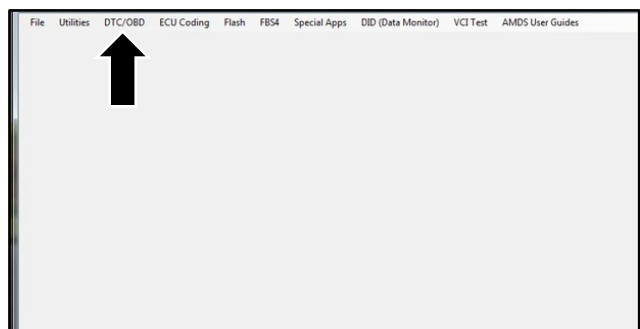

Figure 13
- Select “DTC/OBD” (refer to Figure 13).